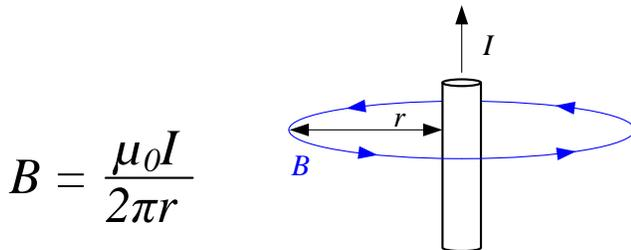

Figure 1. Ampere's Law
There are several different ways to sense current. The majority of applications are based on measuring the voltage across a shunt resistor. This approach is difficult at high currents (>100A) and/or high voltages (>100V). Magnetic field based current sensing is a common solution for designs extending beyond these levels. In a magnetic field based solution, the measured magnetic field (B) is proportional to the current (I) and inversely proportional to the distance (r) from the current carrying conductor (Ampere's Law), as shown in Figure 1.